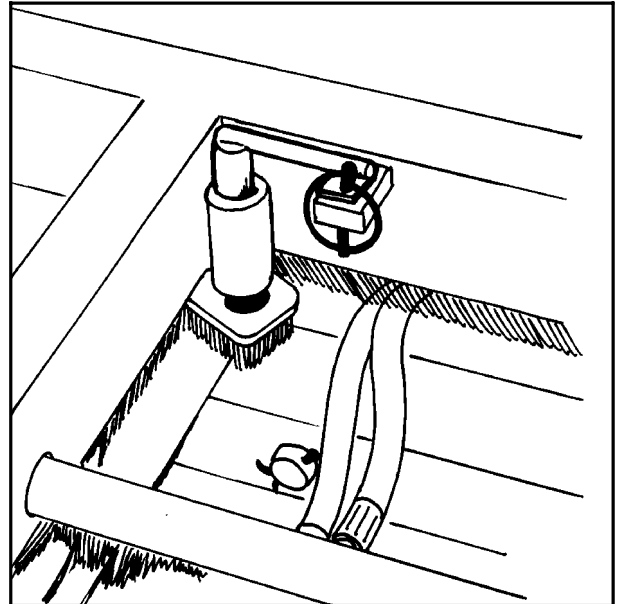

Fig. 4-6
5. The transport locking bolt on the turntable has to be set in working position. Lift the bolt and secure it with the linch pin. (See fig. 4-6).
Before you start wrapping, the transport locking bolt has to be set in working position. Lift the bolt and secure it with the linch pin. (See fig. 4-6).